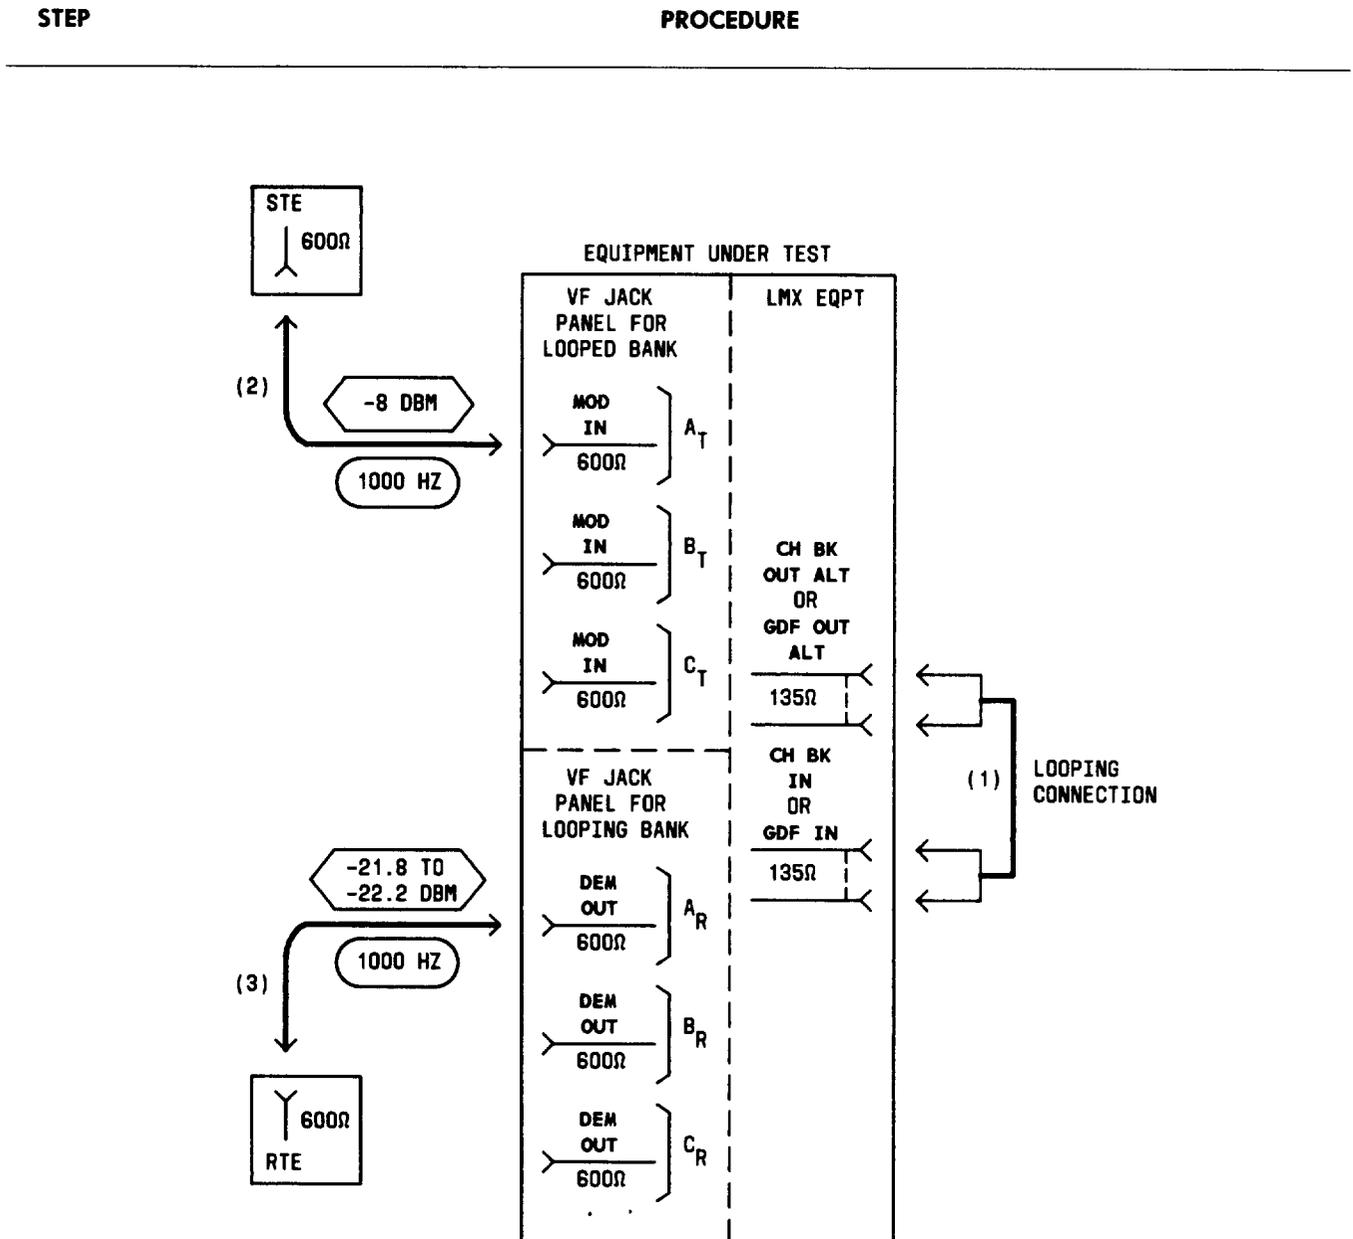

Fig. 22—Patching Diagram—Crosstalk Test—Unequal-Level Looping—Channel Gain Verification (1000 Hz)
- 3 At the LMX equipment, connect the CH BK OUT ALT (LMX-2) or GDF OUT ALT (L jack to the CH BK IN (LMX-2) or GDF IN (LMX-3) jack [patch (1), Fig. 22].
- 4 Connect the STE to the MOD IN jack for Channel 1 of the **looped** channel bank test [Test A, Table I and patch (2), Fig. 22].
- 5 Connect the RTE to the DEM OUT jack for the **looping** bank for the channel und [Test A, Table I and patch (3), Fig. 22].
7	Remove patches (2) and (3), Fig. 22.